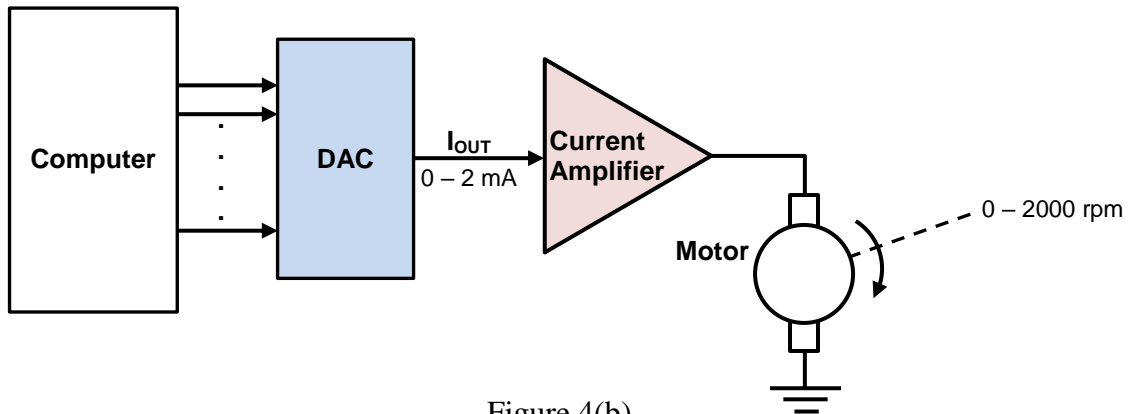

Figure 4(b)
- (b) Figure 4(b) shows a computer controlling the speed of a motor. The 0 to 2mA analog current from the DAC is amplified to produce motor speeds from 0 to 2000 rpm (revolutions per minute).